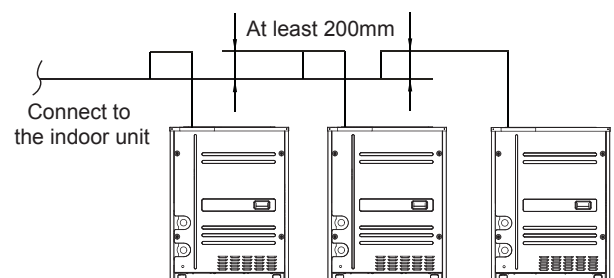
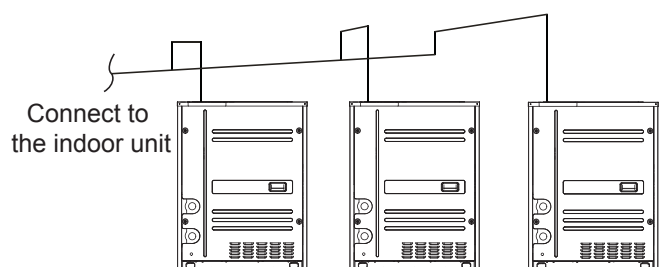

Fig.6-7
Fig.6-8
- 1) Connect the pipes between main units, the pipes should place horizontally (Fig.6-7, Fig.6-8), it is not allow the concave at junction site and set longer than 200mm bending pipes for saving oil.